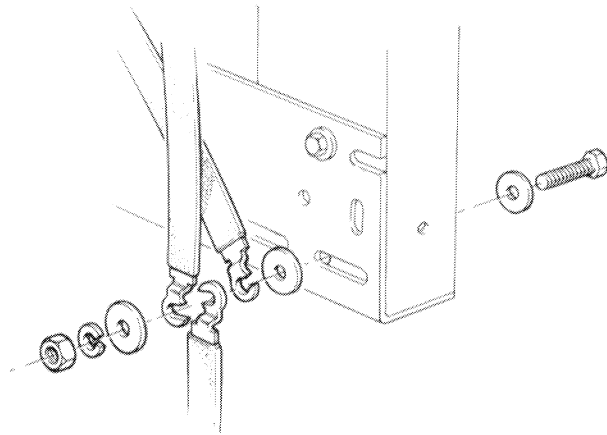

Fig. 24 Equipment rack bonding point: $\frac{1}{2}$ ton FFR
c. $\frac{1}{2}$ ton FFR only: Remove the lowest of the four bolts securing the vertical face of the angled part of the equipment rack to its righthand end support, as indicated in fig. 24. Replace this bolt with the M6 x 25 bolt, nut etc. as detailed in a. above.